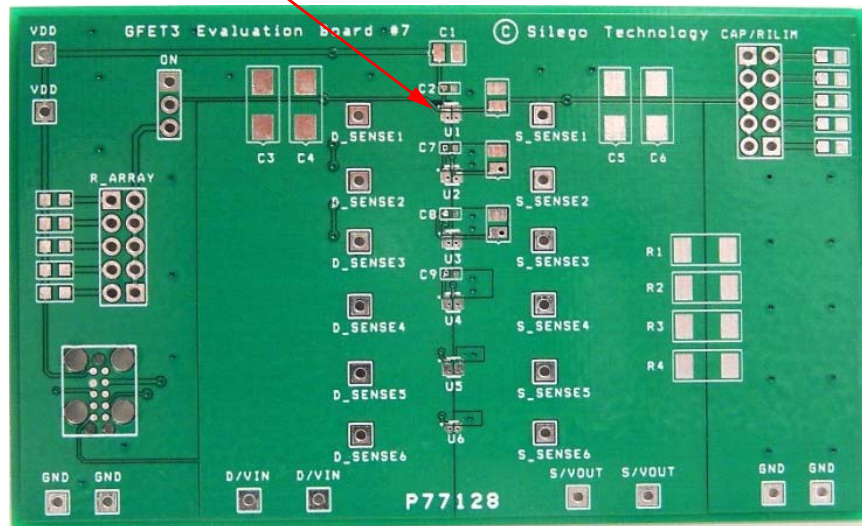

Figure 1. SLG59M1448V Evaluation Board.
2. Since the D and S pins dissipate most of the heat generated during high-load current operation, it is highly recommended to make power traces as short, direct, and wide as possible. A good practice is to make power traces with absolute minimum widths of 15 mils (0.381 mm) per Ampere. A representative layout, shown in Figure 1 , illustrates proper techniques for heat to transfer as efficiently as possible out of the device;
A GreenFET Evaluation Board for SLG59M1448V is designed according to the statements above and is illustrated on Figure 1 . Please note that evaluation board has D_Sense and S_Sense pads. They cannot carry high currents and dedicated only for RDS_{ON} evaluation.